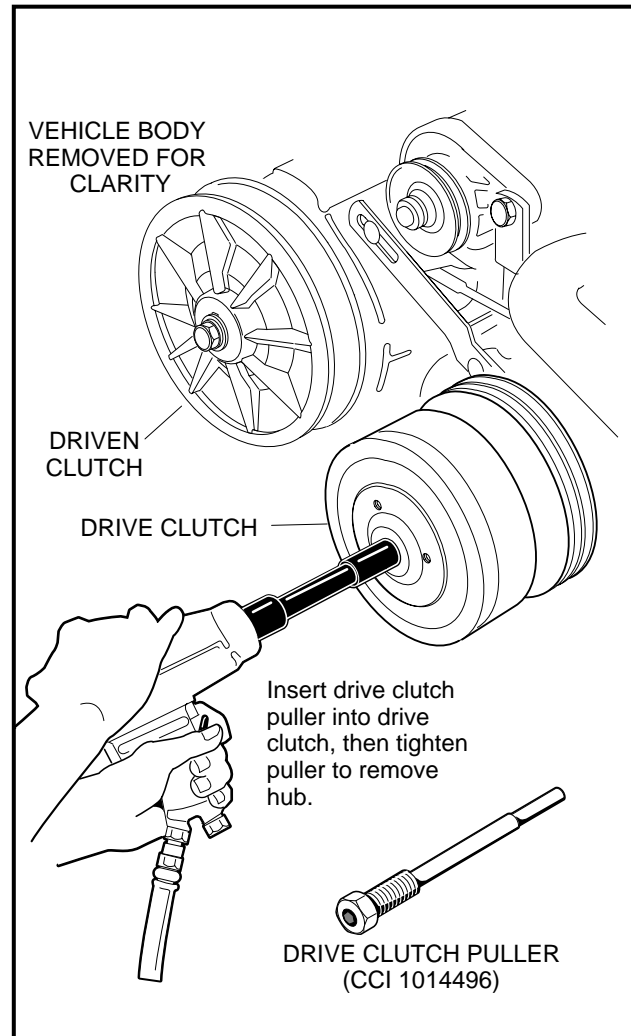

Figure 17-4 Drive Clutch Removal
5. Using a 1/2 inch drive air wrench, tighten the clutch puller tool. The drive clutch will come free of the crankshaft (**Figure 17-4, Page 17-5**).